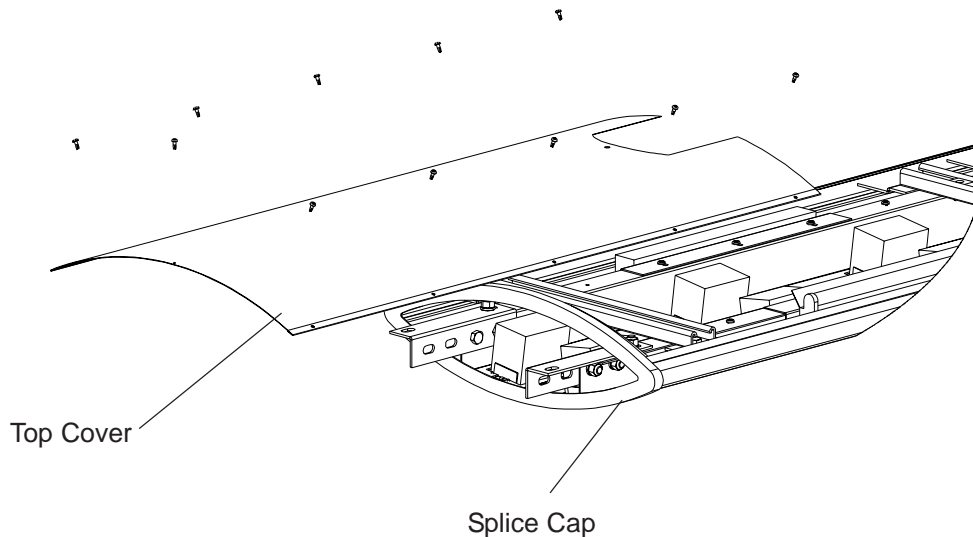

Fig. 11
7. Replacetop cover (see Fig. 11).